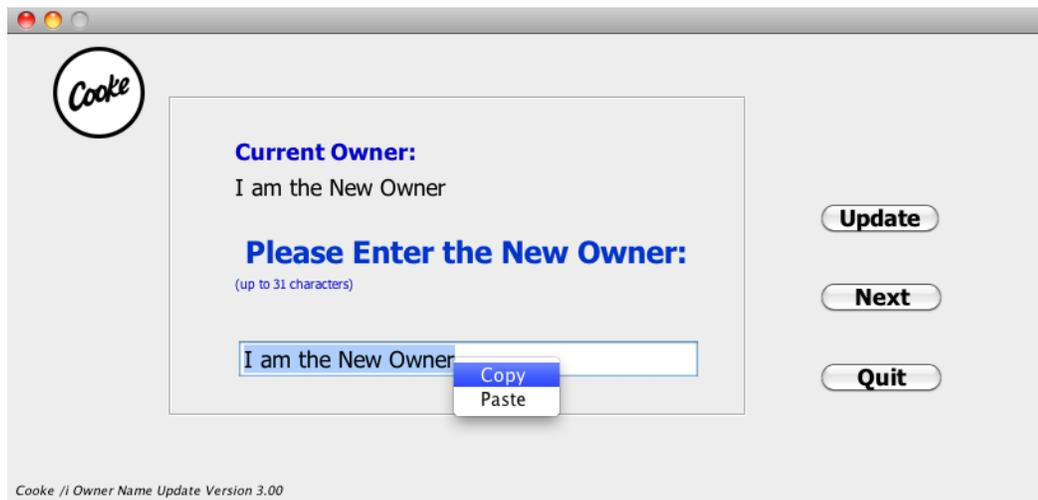

Figure4 Copy and Paste Menu
- There is Copy and Paste menu by right click the mouse, shown in Figure4.